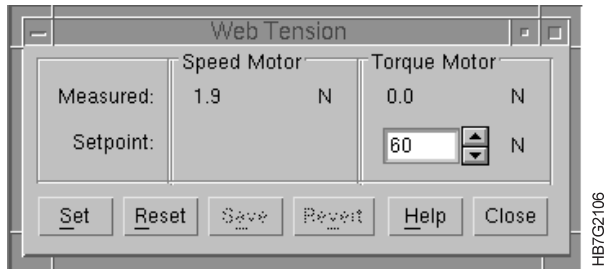

Figure 172. Web Tension Window
- 1 Open the **Web Tension** window, as shown in Figure 172.